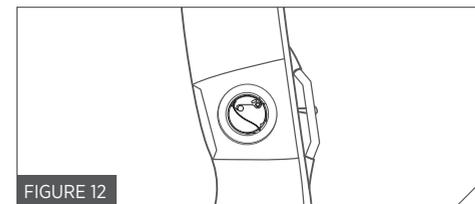

FIGURE 12
9. Pass the inflator pull handle through the button hole, and secure the ends into the stretch tabs (Fig. 12), taking care not to pull the lanyard and inadvertently inflate your PFD.